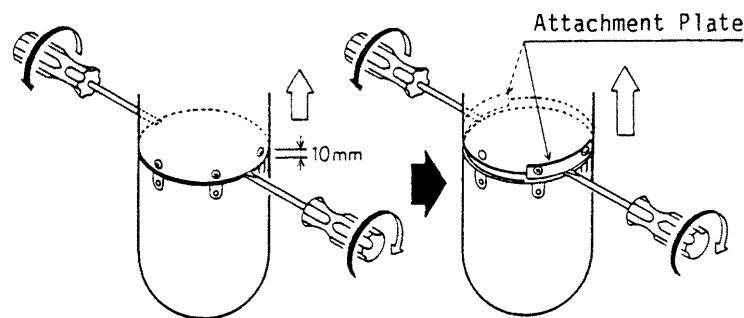

Figure 5.2
- 2) Unscrew the soundome (D) fixing screws.
- 3) Insert screwdrivers with blade width of 7 to 9 mm to the slit on the soundome (D) and rotate them in the opposite directions each other. The upper soundome assembly will slide up by the width of the screwdriver.
- 4) Fix two attachment plates (supplied as installation materials) to the upper dome assembly as shown in Fig. 5.2.
- 5) Insert the screwdrivers between the plates and the slits of soundome (D) and rotates them. The upper dome assembly will be pushed up further and become loose enough to be removed by hand.
- 1) Loosen 8 screws and take off the soundome (U). To detach the soundome from the main body, use (-) screwdrivers in the same way as they have been used to remove the soundome (D). See Fig. 5.2.